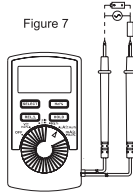

Figure 7
7. Measuring DC & AC Current(See Figure 7,8)